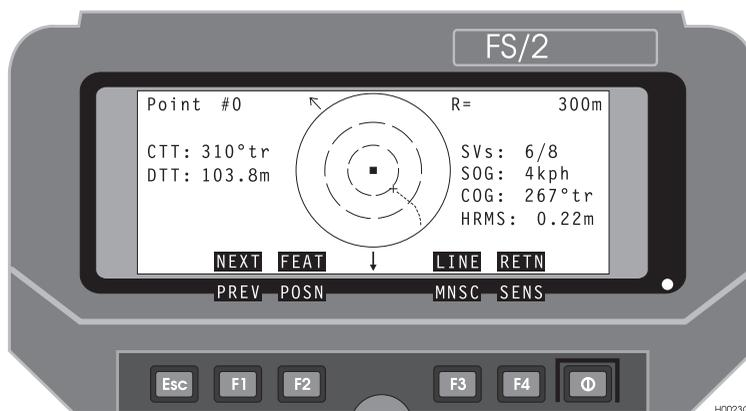

Figure 3.29: Bull's-eye Navigation Screen
1. Press **F3 (BULL)** to call the Bull's-eye Navigation screen, Figure 3.29.